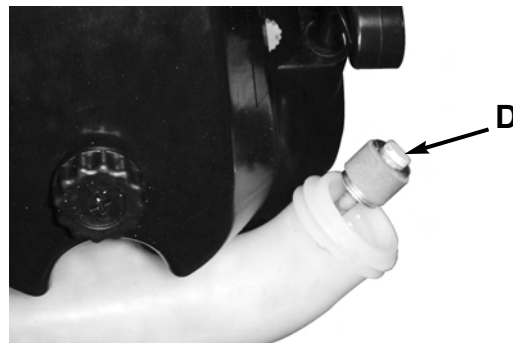

Fig. 24
2. Pull filter (D) off with a twisting motion. (Figure 24)
3. Replace fuel filter (D). (Figure 24)